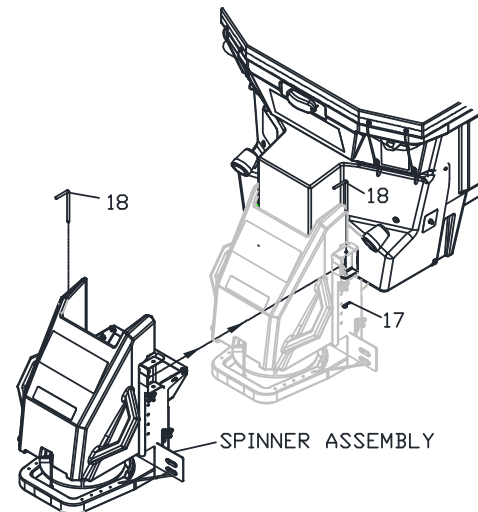

Figure 13. Spinner Assembly Attach
2. Remove Attachment Pins (18) from Spinner Assembly.
3. Attach Spinner Assembly to Spreader, plug in harness, and re-install pins as shown in Figure 13.